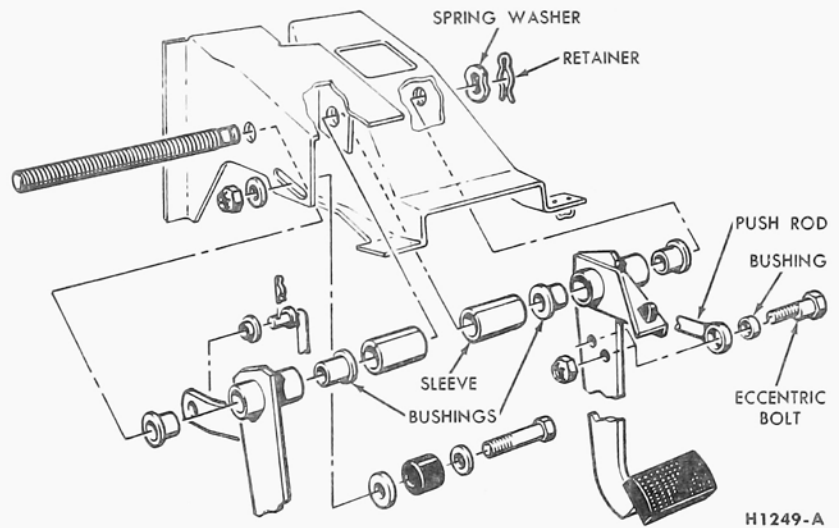

FIG. 14—F-250 and F-350 Series Brake Pedal and Related Parts
2. Remove the brake master cylinder push rod eccentric bolt nut, and remove the bolt and nylon bushing (Fig. 14).